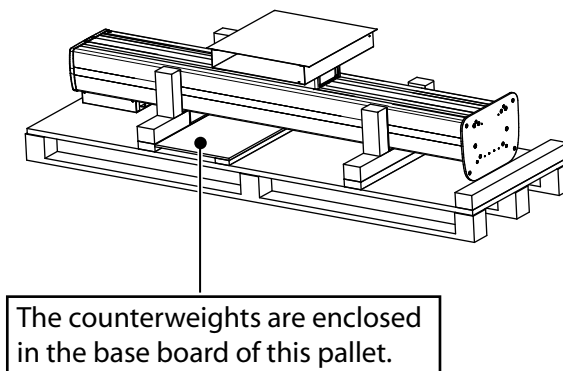

Fig. 4-33 Lifting wallstand off the pallet
5. With help from at least two persons, lift the wallstand, as indicated in the figure below. Lift the wallstand off the pallet, see **Fig. 4-33**.